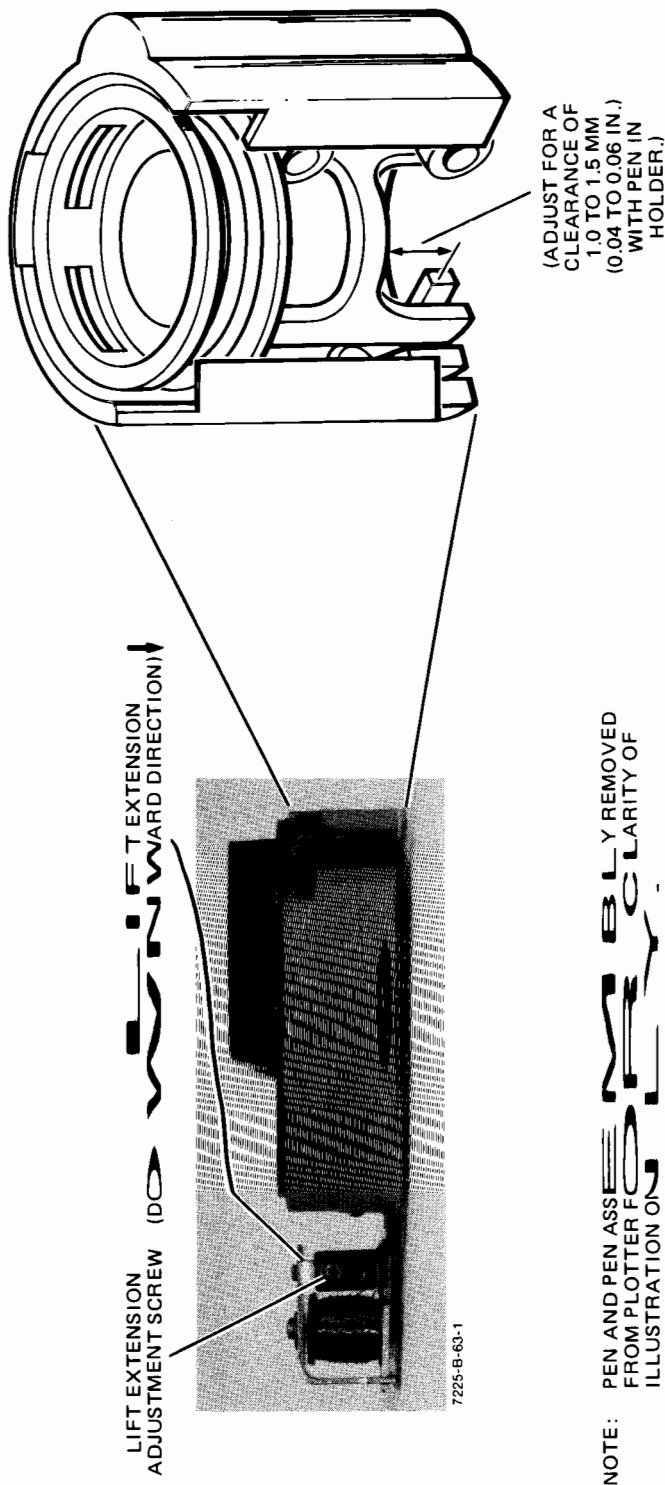

Figure 6-6. Pen Down Adjustment
- f. With the pen tip resting on the paper, use a round wire feeler gauge and check the clearance between the pen slider and the pen-lift extension at each corner of the platen. The clearance should be between 1.0 mm and 1.5 mm (0.04 in. and 0.06 in.). See Figure 6-6.